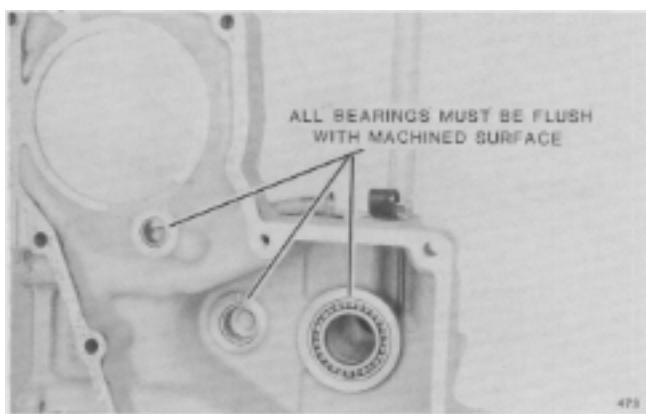

FIG. 28. Right Case Half
2. Carefully inspect bearings in both case halves (Fig. 28 and 29). If replacement is required, two axle shaft needle bearings can be driven out from either inside or outside of case. All other bearings should be driven out from outside of case half. To remove uppermost bearing in RH case, use a  $\frac{3}{16}$ - $\frac{1}{4}$ " punch inserted through small opening behind bearing (Fig. 28).